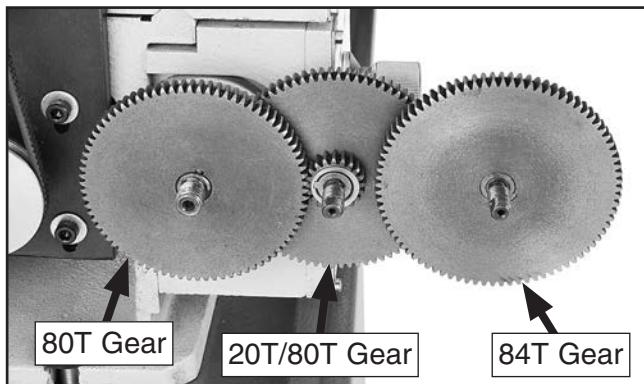

Figure 76. Gear removal identification.
8. Slide 80T and 84T gears off shafts, then remove middle C/D (20T/80T) gear and shaft (see **Figure 76**).